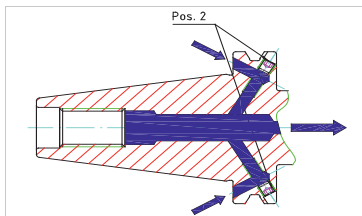

Fig. 9: Coolant Supply **Form AF/JF**
4. Screw the threaded pins with medium-strength thread locking compound (adhesive) into the cooled tool holder at "Pos. 2" (see *Fig. 9: Coolant Supply Form AF/JF*).